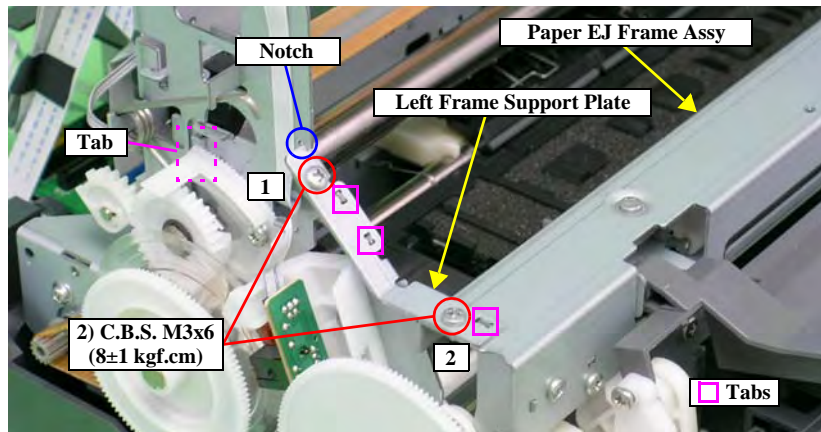

Figure 4-68. Removing the Left Frame Support Plate
- Insert the Left Frame Support Plate into the notch on the Main Frame. See Figure 4-68.
- Align the two tabs on the Main Frame and the tab on the Paper EJ Frame Assy with the three positioning holes on the Frame Support Plate (Left). See Figure 4-68.
- Align the tab (rear side) of the Left Frame Support Plate with the outside of the Left CR Shaft Mounting Plate. See Figure 4-68.
- Tighten the screws in the order shown in Figure 4-68